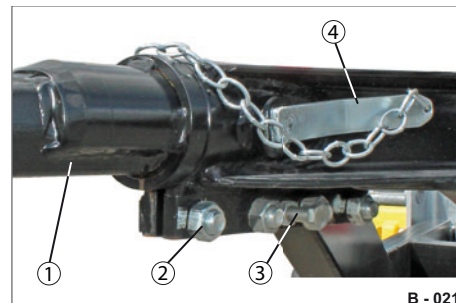

Fig. 34 Adjustment tube secured
- ▶ Release the lock nut of the expansion screw (Fig. 34/3) and screw the expansion screw in until the adjustment tube is released (can be moved).
- ▶ Slide adjustment tube in/out (Fig. 34/1) with the towing eye to the required length.
- ▶ Remove the expansion screw and counter it with the lock nut (Fig. 34/3).